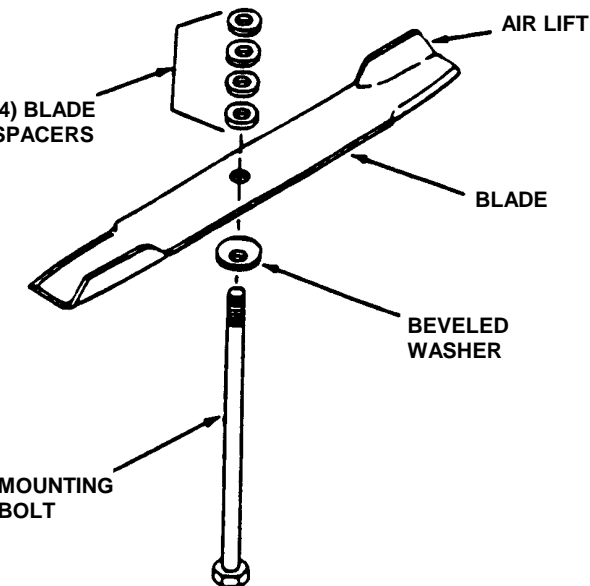

FIGURE 5.6
5. Reinstall blade. See Figure 5.6. Torque blade mounting bolts to recommended range of 70 to 80 ft. lbs.
1. Remove blade. See Figure 5.6.